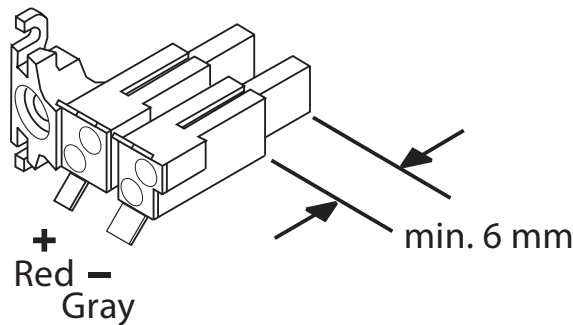

Fig. 29 Check and replace carbon brushes as needed
- ⇒ **Fig. 29, Check and replace carbon brushes as needed, page 99**